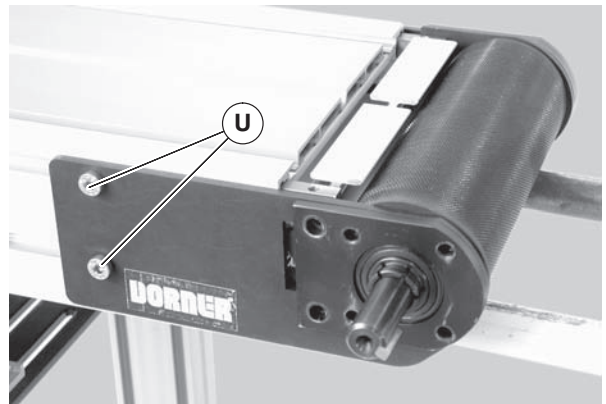

Figure 71
5. On the drive headplate, remove two (2) screws (Figure 71, item U).